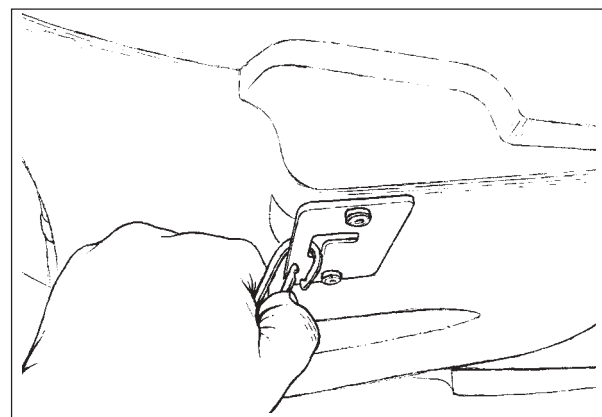

Figure 10
6. Unhook the tether clip from the recovery tank (See Figure 10).
- Reattach the tether to the recovery tank (See figure 10).